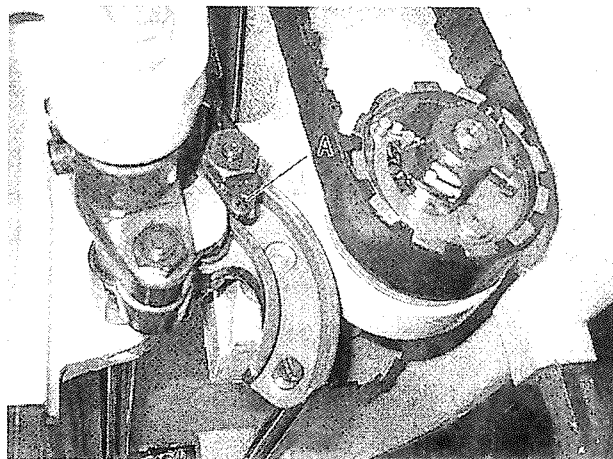

Fig.20
13. REVERSE STITCHING (Fig. 20)